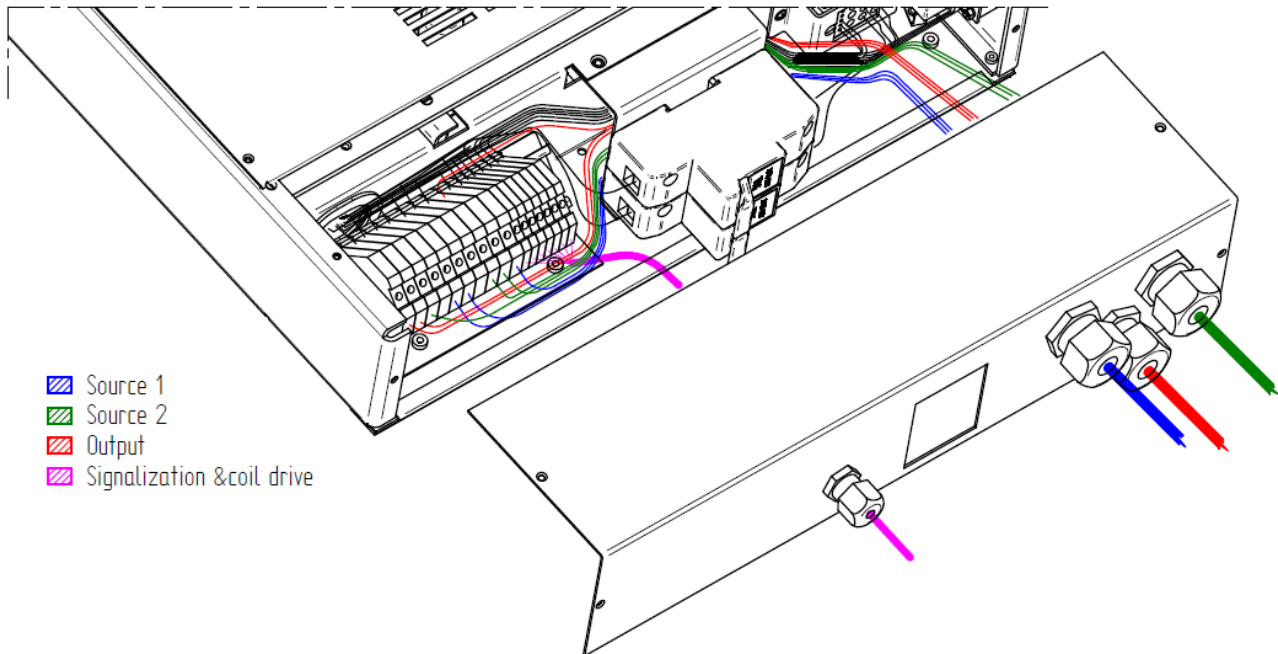

Fig. 3.3 – External cable routing
4. A small plastic lever is located inside both telescopic slides. Press the left lever downwards and right lever upwards, as shown in fig 3-3. This will unlock the slide and Hotswap unit can be pulled out completely.